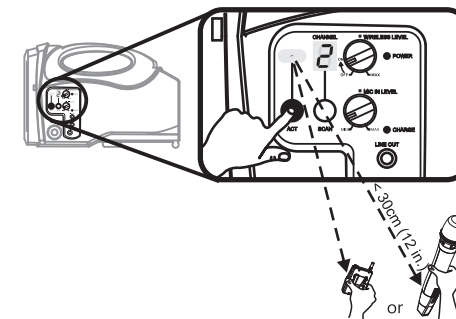

Fig. 4
- (C) Purpose for Scanning a New Channel: Existing channel is experiencing noise interferences or problems during operation. Two or more wireless microphones are required to be used simultaneously at same location.
- (D) Caution during Changing Channel: Do not change channel during a live performance with multiple wireless microphones in operation as it may cause interference.
- (A) Setting ID code enables the user to increase compatible channels at the same venue using the same operating channel, especially in a heavily congested Wi-Fi environment and interferences. There are four available ID codes: 0→1→2→3 for set-up.
- (B) Press & hold the SCAN button. Concurrently, turn on the Power Switch/Wireless Mic Volume Control. Press & release the SCAN button will move up to the next available ID code. Turn off the Power Switch/Wireless Mic Volume Control to save this ID CODE.
- (C) Turn on the Power Switch/Wireless Mic Volume Control back on again to perform the ACT synchronization with embedded ID code. Without performing this ACT synchronization step, no sound output because the ID codes has been changed even though the same channel number remains the same.
3. Automatic Transmitter Channel Sync, Fig. 4:
- (A) Turn on the transmitter.
- (B) Press the ACT sync button on the receiver. The Channel indicator will blink indicating that ACT sync mode is active.
- (C) Align the sync windows of both transmitter and receiver at a distance of <30 cm (12-inch) and hold until Channel indicator stops blinking, See Fig. 4.
- (D) Sync is done successfully when Channel indicator stops blinking, the system is ready for use.
- (E) If ACT sync fails, repeat the sync procedure, carefully maintaining alignment between windows of both transmitter and receiver.